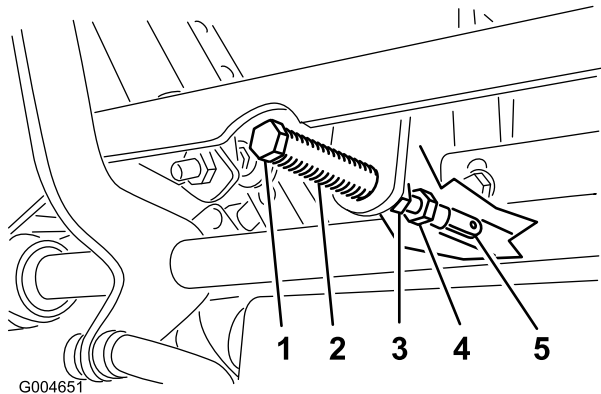

Figure 88
5. Pull the lever back until the clevis pin (on an arm above the pivot shaft) contacts the end of the slot (just beginning to put pressure on the spring) as shown in Figure 88.
7. If adjustment is needed, loosen the nut and jam nut against the yoke (Figure 88).
8. Applying slight rearward pressure on the motion-control lever, turn the head of the adjustment bolt in the appropriate direction until the control lever is centered in the NEUTRAL-LOCK position (Figure 88).
9. Tighten the nut and jam nut (Figure 88).
10. Tighten the jam nuts at the ball joints (Figure 88).